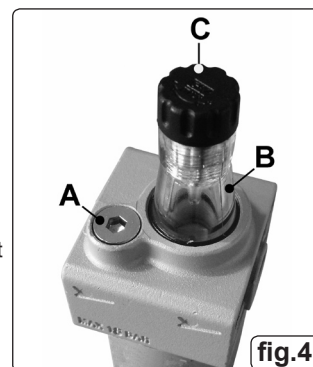

fig.4
- 4.4.1. Remove the filler plug (fig.4.A) and fill the bowl with air tool oil (Sealey Part No. ATO500 or ATO1000). This can be done with the system pressurised. With air flowing through the lubricator the oil delivery rate can be adjusted by the screw (fig.4.C) whilst watching the drip rate through the sight dome (fig.4.B). The oil delivery rate will automatically increase or decrease in line with the air flow.